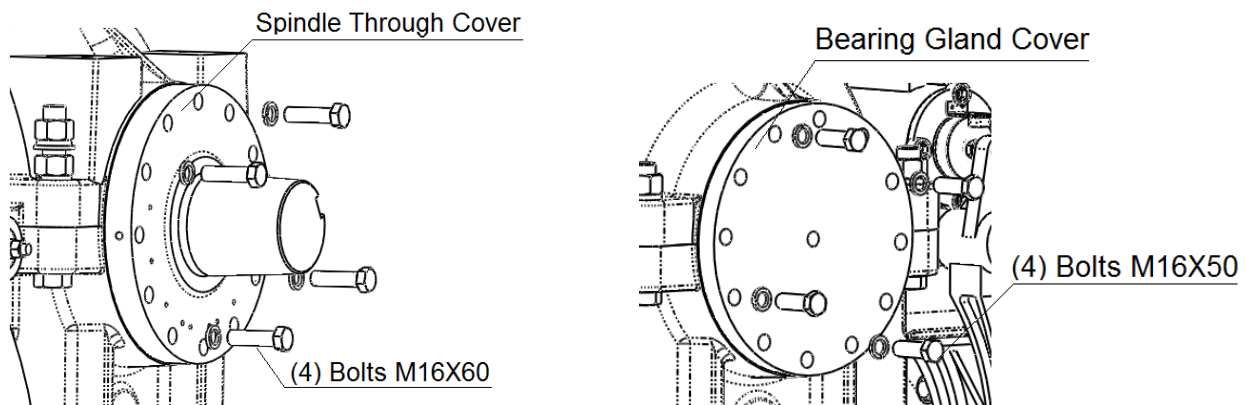
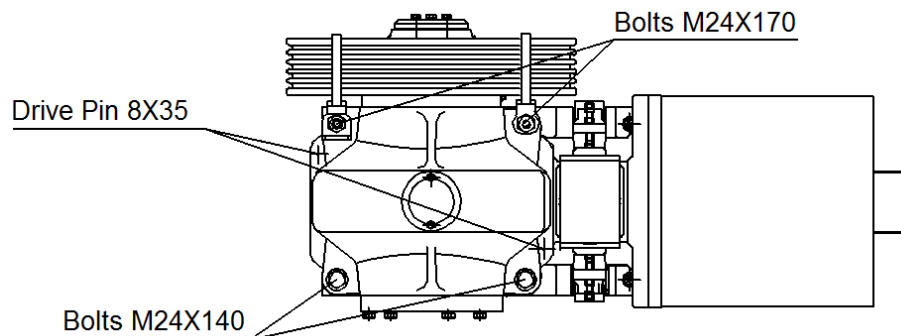

Figure 44 Spindle through Cover and Bearing Gland removal
Figure 45 Top housing
- Thread a M4x50 bolt into each of the two drive pins on the gear box top. Close a large adjustable end wrench on the bolt below the head. Use a hammer or mallet against the wrench to remove the drive pins. See figure 45. Loosen the Bolts M16x60 from the Spindle Through-Cover and the Bolts M16x50 from the Bearing Gland. Then remove the spindle through cover and bearing gland. See figure 44.